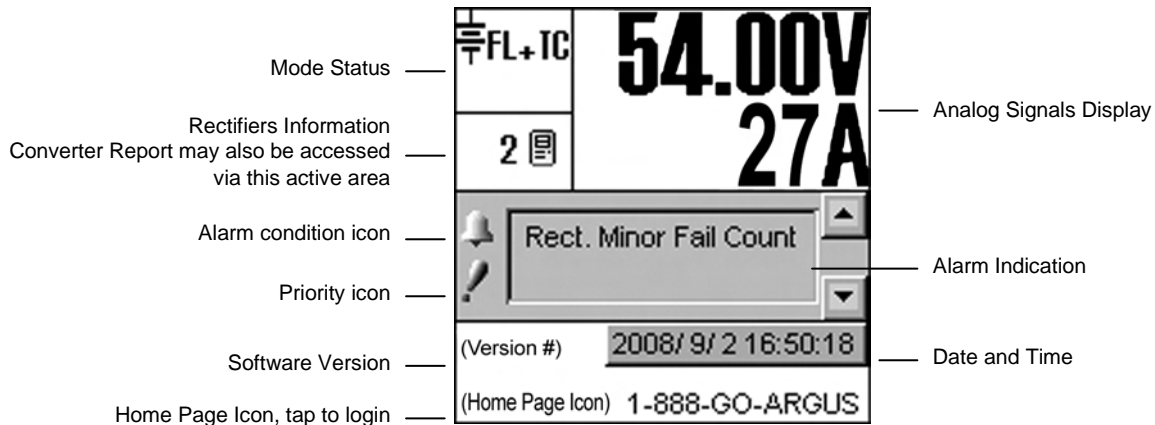
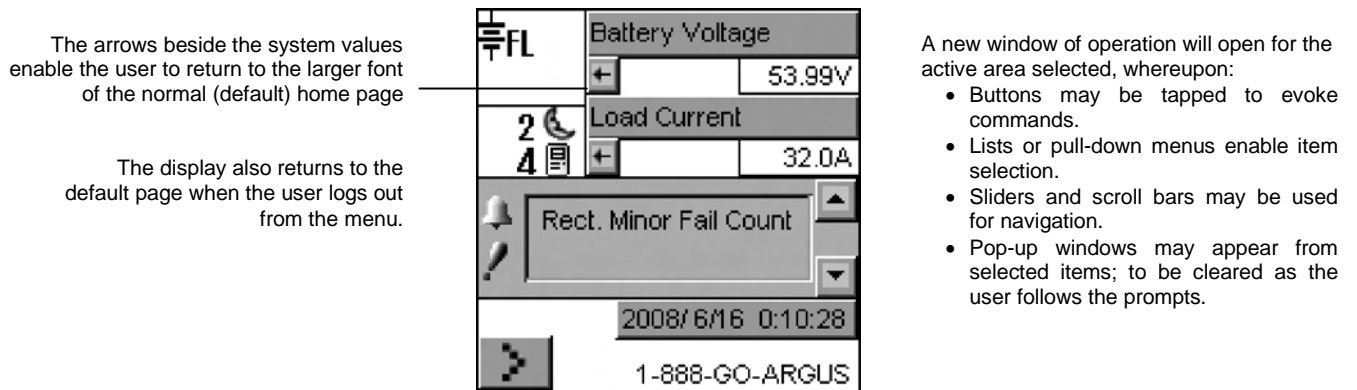
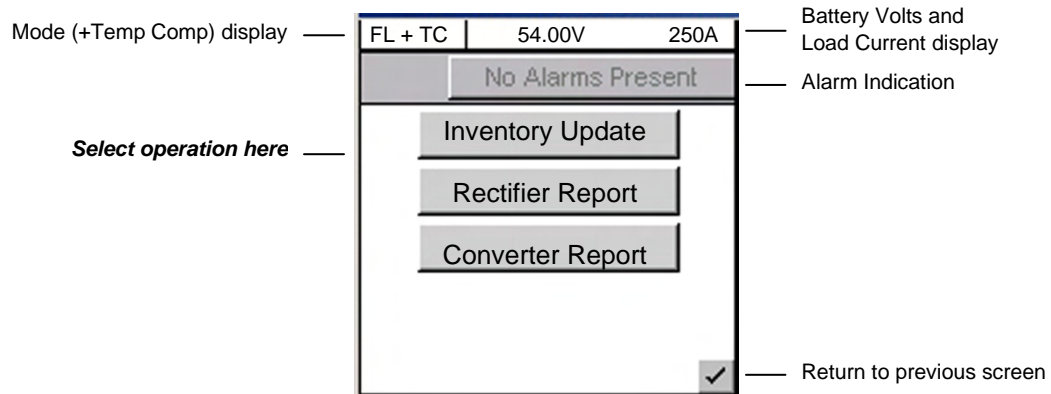

Figure 2—Sample of CXC default operating screen
Figure 3—Sample of CXC home page with user-activated Analog Signals Display
Figure 8—Update (inventory) and report selection screen
When the CXC is powered-up or reset, it will first perform a 15-second self-test before displaying the Cordex logo and various identification messages. The three front-panel LED's will illuminate temporarily, but will extinguish after the system has finished its self-test. Next, the GUI will display the power system's parameters during Normal operating mode, see Figure 2.
The Analog Signals Display on the home page will show two lines of text for system voltage and current by default (Figure 2). Tap this active area to decrease the font size for four lines of text showing the system values and the corresponding labels (Figure 3). The large font reappears after 20 minutes of inactivity (no user input); otherwise tap again to enter a new window of operation (Figure 10) or select a different active area as required. Refer also to 5.1.3.
The CXC has four modes of operation: float (FL), equalize (EQ), boost (BST) and battery test (BT). The mode, along with temperature compensation (TC or Temp Comp) activation, is indicated in the top left “active area” of the GUI, see Figure 2. The time duration, until the mode changes, will also be shown in that active area.
This is the CXC’s default mode at start up and during normal system operation. When in this mode, the rectifier’s charge (or output) voltage is driven by the float voltage setting found in the CXC’s Rectifiers menu, see 6.3.2. The icon (message) FL will display on the GUI’s upper left corner (Figure 2) when the CXC is operating in float mode. **Do not adjust the float voltage of the rectifiers when they are in Current Limit.**
Tap this active area, located below Mode Status on the “home” page (Figure 2), to enter a new window of operation for converter/rectifier updates and reports, see Figure 8 below: